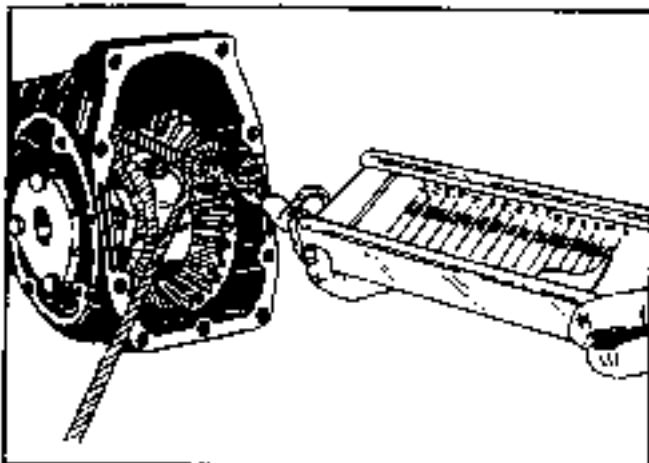

FIGURE 4.
- a. Tapered bearing preload, 2 to 12 lbs. on pull scale. (Figure 4)
- 2.204 Unbolt bearing retainer and lift off, remove retaining ring and shim pack. Clean shims, tape and save for reassembly, to assure an unchanged pinion-ring gear contact. If tooth contact is either high or low, see test 1.227c. a correction can be made by changing the shims. See figure 4.